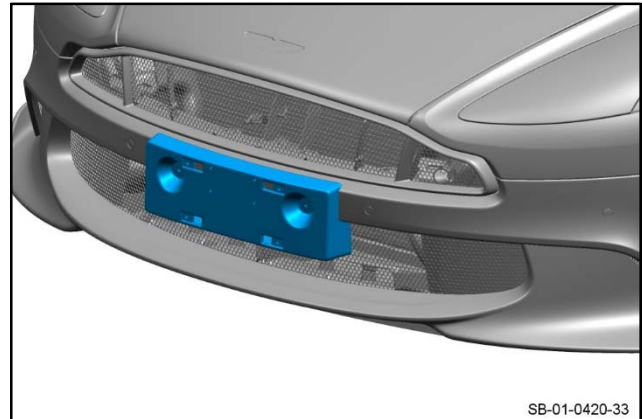

Figure 32
1. Put the front license plate plinth into position (refer to Figure 32)